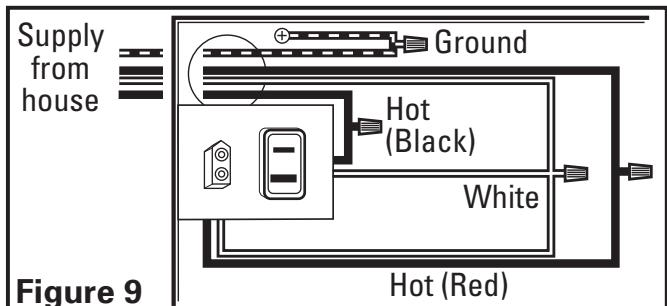

Figure 9
- 2b. From where you have access to inside the fan's junction box, connect the one white wire from the house to both the white wire from the fan's light receptacle and the white wire from the fan's exhaust receptacle. Connect the first black wire from the wall switch to the red wire from the fan's light receptacle. Connect the second black wire from the house to the fan's exhaust receptacle. Connect the ground wire from the house to the green wire from the fan's grounding screw (**Figure 9**). Use approved methods for all connections.
- 3b. From where you have access to inside the fan's junction box, connect the one white wire from the house to both the white wire from the fan's light receptacle and the white wire from the fan's exhaust receptacle. Connect the black wire from the wall switch to the black wire from the fan's light receptacle. Connect the black wire from the house to the black wire from the fan's exhaust receptacle. Connect the ground wire from the house to the green wire from the fan's grounding screw (**Figure 9**). Use approved methods for all connections.